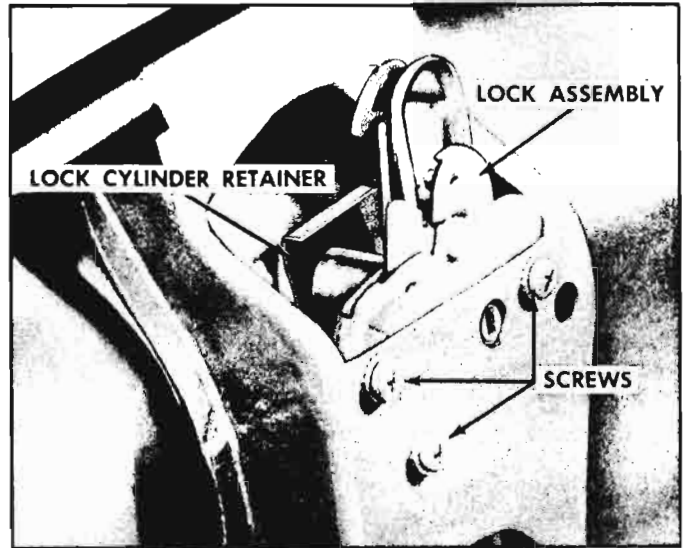

Fig. 10-16—Front Compartment Lid Lock
(fig. 10-16) securing lock cylinder assembly to front end panel and remove assembly.
2. Remove screws shown in Figure 10-16 securing lock to lid lock support and remove lock assembly.